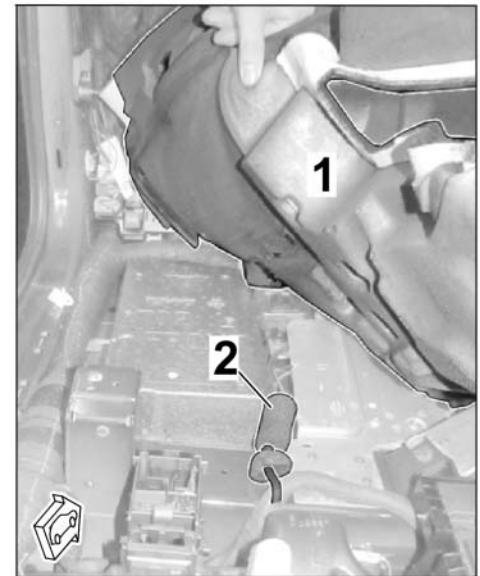

Figure 21
- 2.3.4 Loosen left front floor covering and fold it up as far as possible (⇒ *Figure 21*). ⇒ *Workshop Manual '704119 Removing and installing front floor covering'*